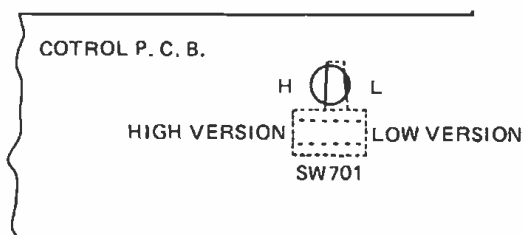
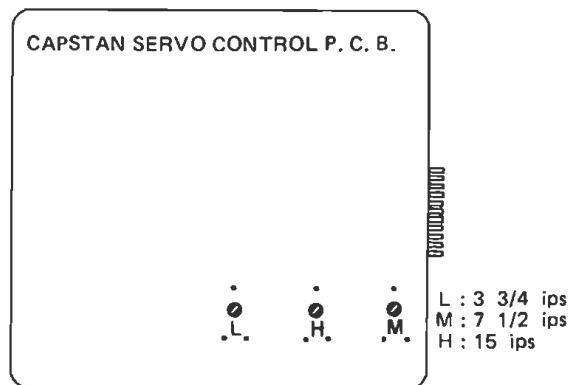

Fig. 6-6 Location of Tape Speed Conversion Switch
Fig. 6-7 Capstan Servo Control P.C.B.
- (1) Remove the 6 screws attaching the rear panel to the tape deck. Remove the panel.
- (2) Remove the 4 allen screws that hold the right side panel to the frame. Remove the panel.
- (3) The speed selection switch is located on the big P.C.B. Ass'y as illustrated Fig. 6.6.
- (4) Slide the switch to L for $7\frac{1}{2}$ and $3\frac{3}{4}$ or H for 15 and $7\frac{1}{2}$ ips.
- (5) Put a speed reference tape for the speed selected on the transport.
- (6) Play the tape and measure the frequency of the output signal with a frequency counter.
- (7) Adjust the appropriate pot on the servo P.C.B. Ass'y near the capstan motor, as illustrated Fig. 6-7, to obtain the reference speed frequency.
- (8) Re-install the side and rear panels.